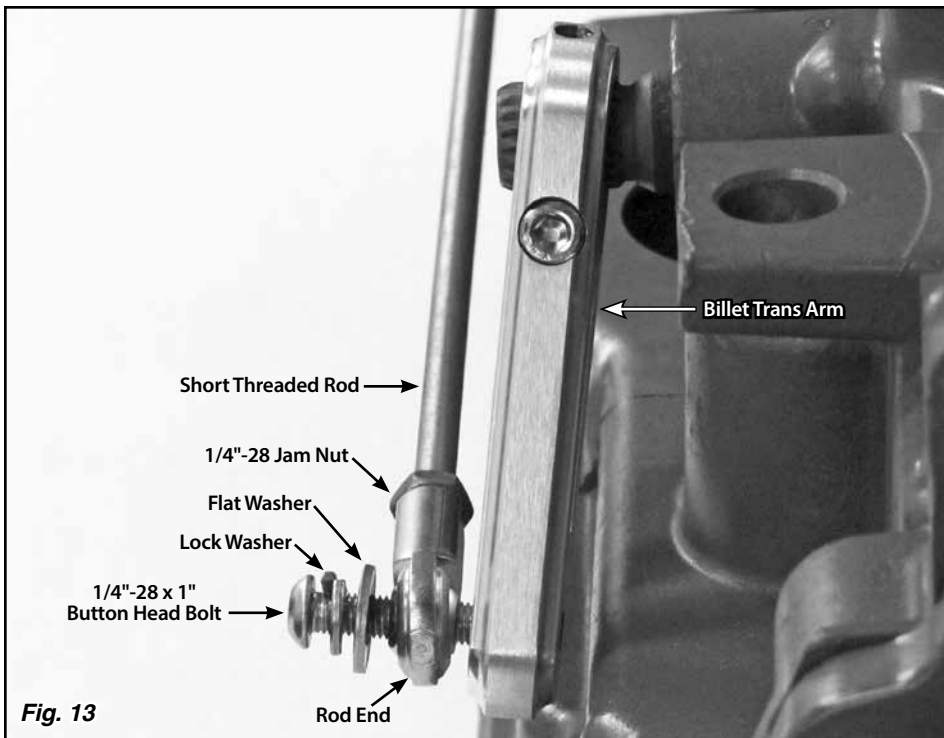

Fig. 13
Step 17: Verify that both 1/4"-28 jam nuts are on the short threaded rod. Thread one end of the short threaded rod into the rod end on the linkage arm, and install a rod end onto the opposite end of the short threaded rod. Attach that rod end to the outside of the billet trans arm using the 1/4"-28 x 1" button head bolt with a lock washer and flat washer as shown in **Fig. 13**.